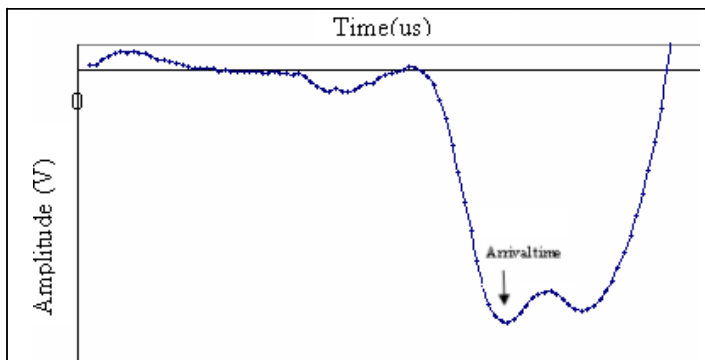

Fig.1. P-wave arrival time signal from channel 1
Step 5. The Vu-Con® will generate a voltage versus time waveform for analysis. On the display screen, the signal received by Channel 1 will appear. Move the cursor along this signal using the right & left arrows keys to find the **first** negative peak (or the first change in slope as shown in Fig. 1 and 2 respectively).